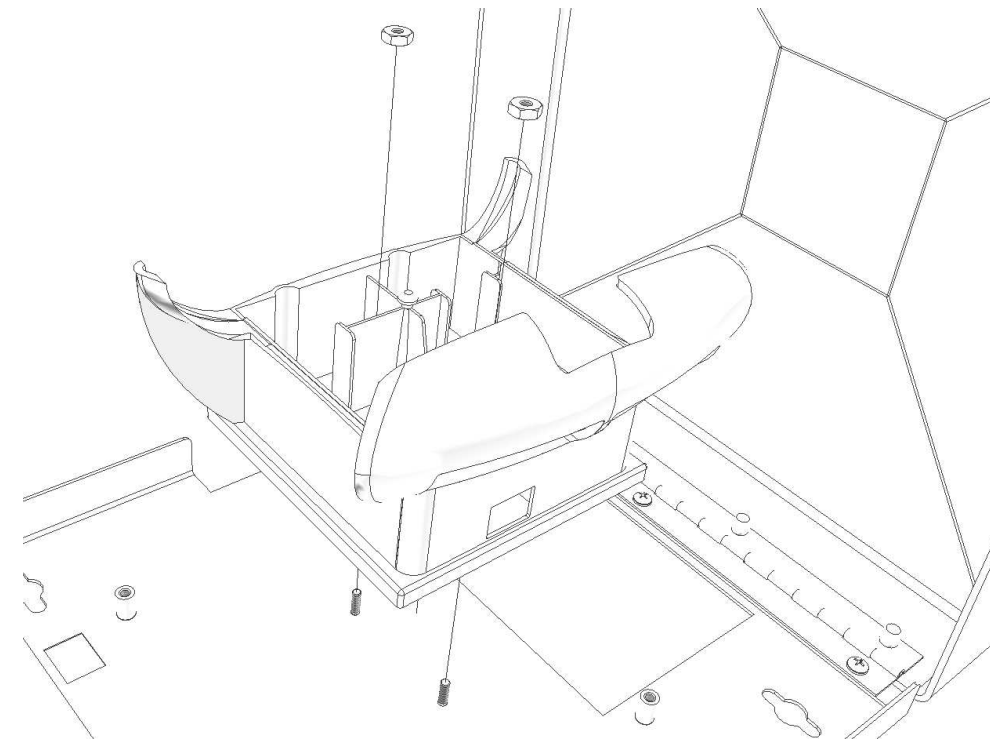

Figure 2 – Aruba Networks AP-105-MNT mounting bracket
Step 2 – Install the Aruba Networks AP-105-MNT mounting bracket (sold separately) with (2) two #6-32 nuts to the studs located on the backbox of the enclosure (Ref. Figure 2).